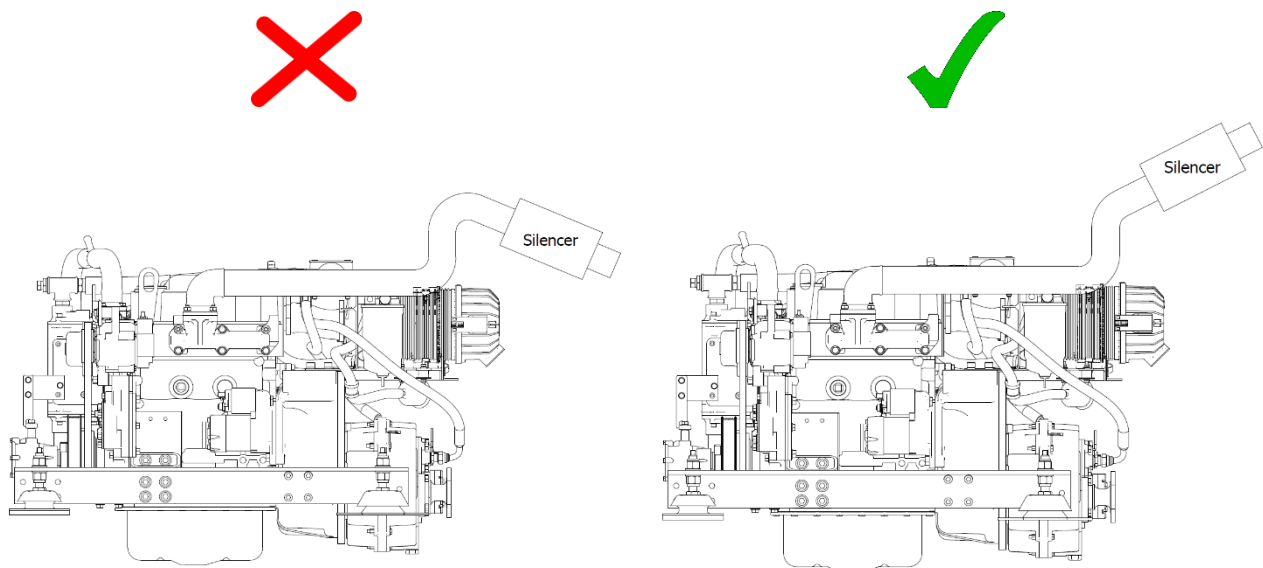

Figure 13: Correct Exhaust Installation
- Make sure the exhaust increases then decreases in height as shown in (**Figure 13**).